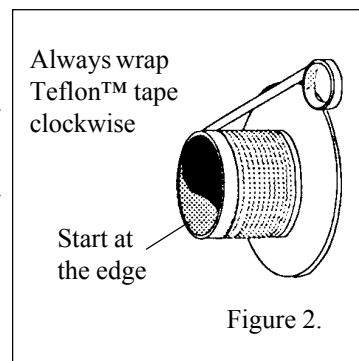

Figure 2.
3. Use the Teflon™ tape provided. Snugly wrap the threaded wall flange in a clockwise direction (as viewed from the back) starting at the edge of the threads; see Figure 2. Work towards the flange lip (overlapping 1/2 of the tape width with each wrap) then back towards the starting point.